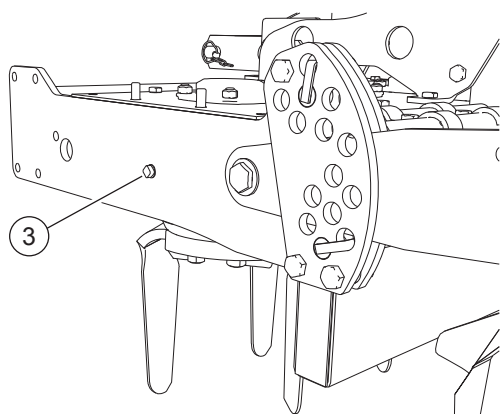

FIG. 42
- Place a basin under the oil drain plug (3, "Fig. 42").